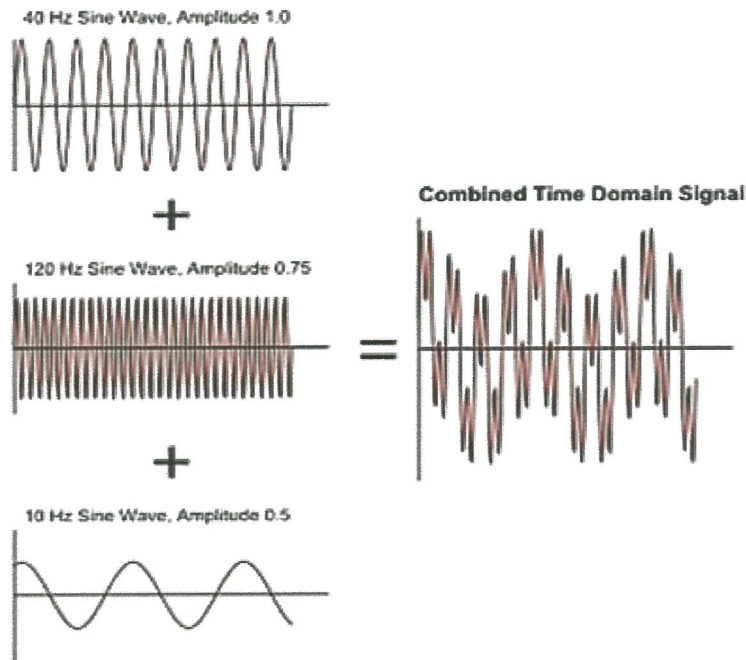

Figure Q2 (b)
- (b) Three sine wave with different frequencies and amplitudes were combined to make a single sine wave signals in **Figure Q2(b)**. Using a Fourier analysis method, produce a frequency domain graph to represent the combined time domain signal.